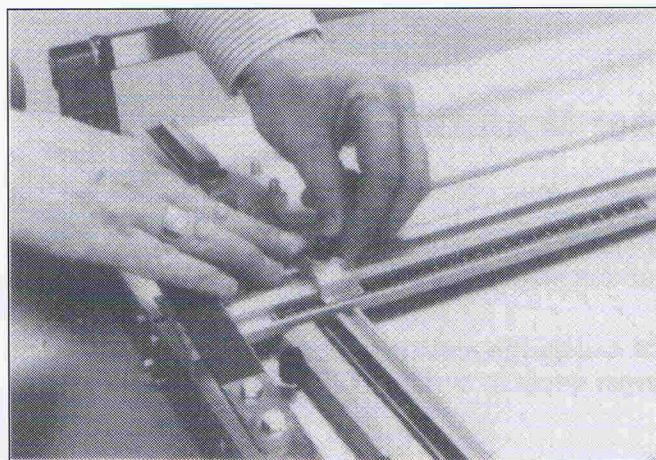

Fig. 8
The V-groove stop (11) has been set in our factory to give a V-groove of the same width as the normal bevel cut on a 1250 micron mountboard. If a different thickness of mountboard is used, or if a wider or a narrower V-groove is required, the V-groove stop must be moved to the left or to the right respectively. It is loosened and tightened with the 3mm Allen key. (Fig. 8)